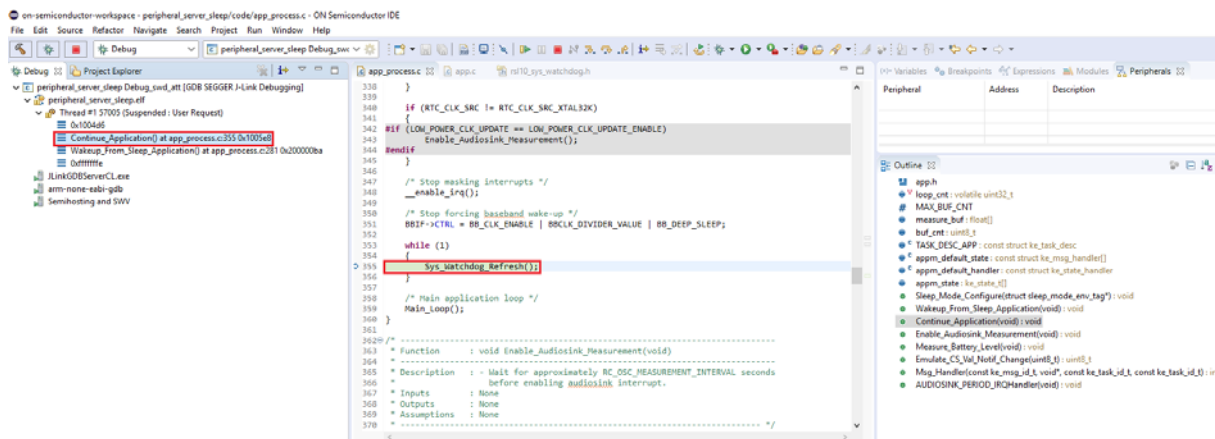

Figure 53. Second Debug Session Perspective After Connecting to the Running Target
8. After the target exits Deep Sleep Mode, it is running in the infinite loop (step 1), and you can connect to the running target by starting the second debug session (see Figure 53). Note that the debugger is able to reattach to the running target and halt the processor after waking up from sleep.